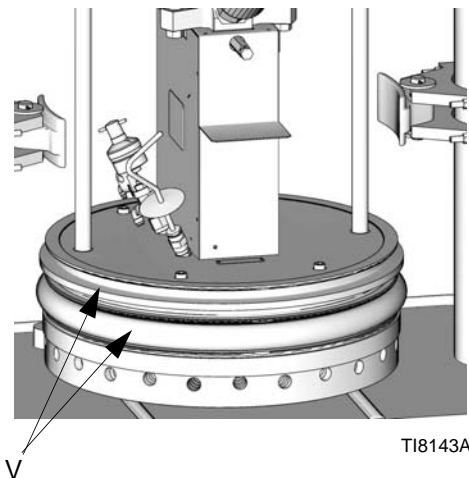

FIG. 22 Wipers
1. To replace a worn or damaged wiper (V) raise the ram plate up out of the drum. Be sure to follow all the cautions and warnings. Perform steps 1 through 7 of the **Drum Changing** procedure on page 36. See Instruction manual 309196 for instructions about replacing tee wipers. See FIG. 22: